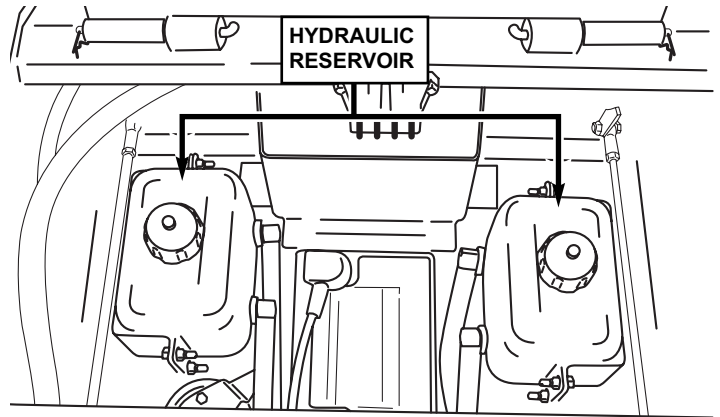

FIGURE 7
A. Locate hydraulic reservoir underneath operator's seat. After thoroughly cleaning the area around the top of each reservoir, remove filler cap. Bring fluid to proper level (1 ½" below the top of the filler neck). With engine off, add SAE 20W50 automotive oil. See Figure 7.